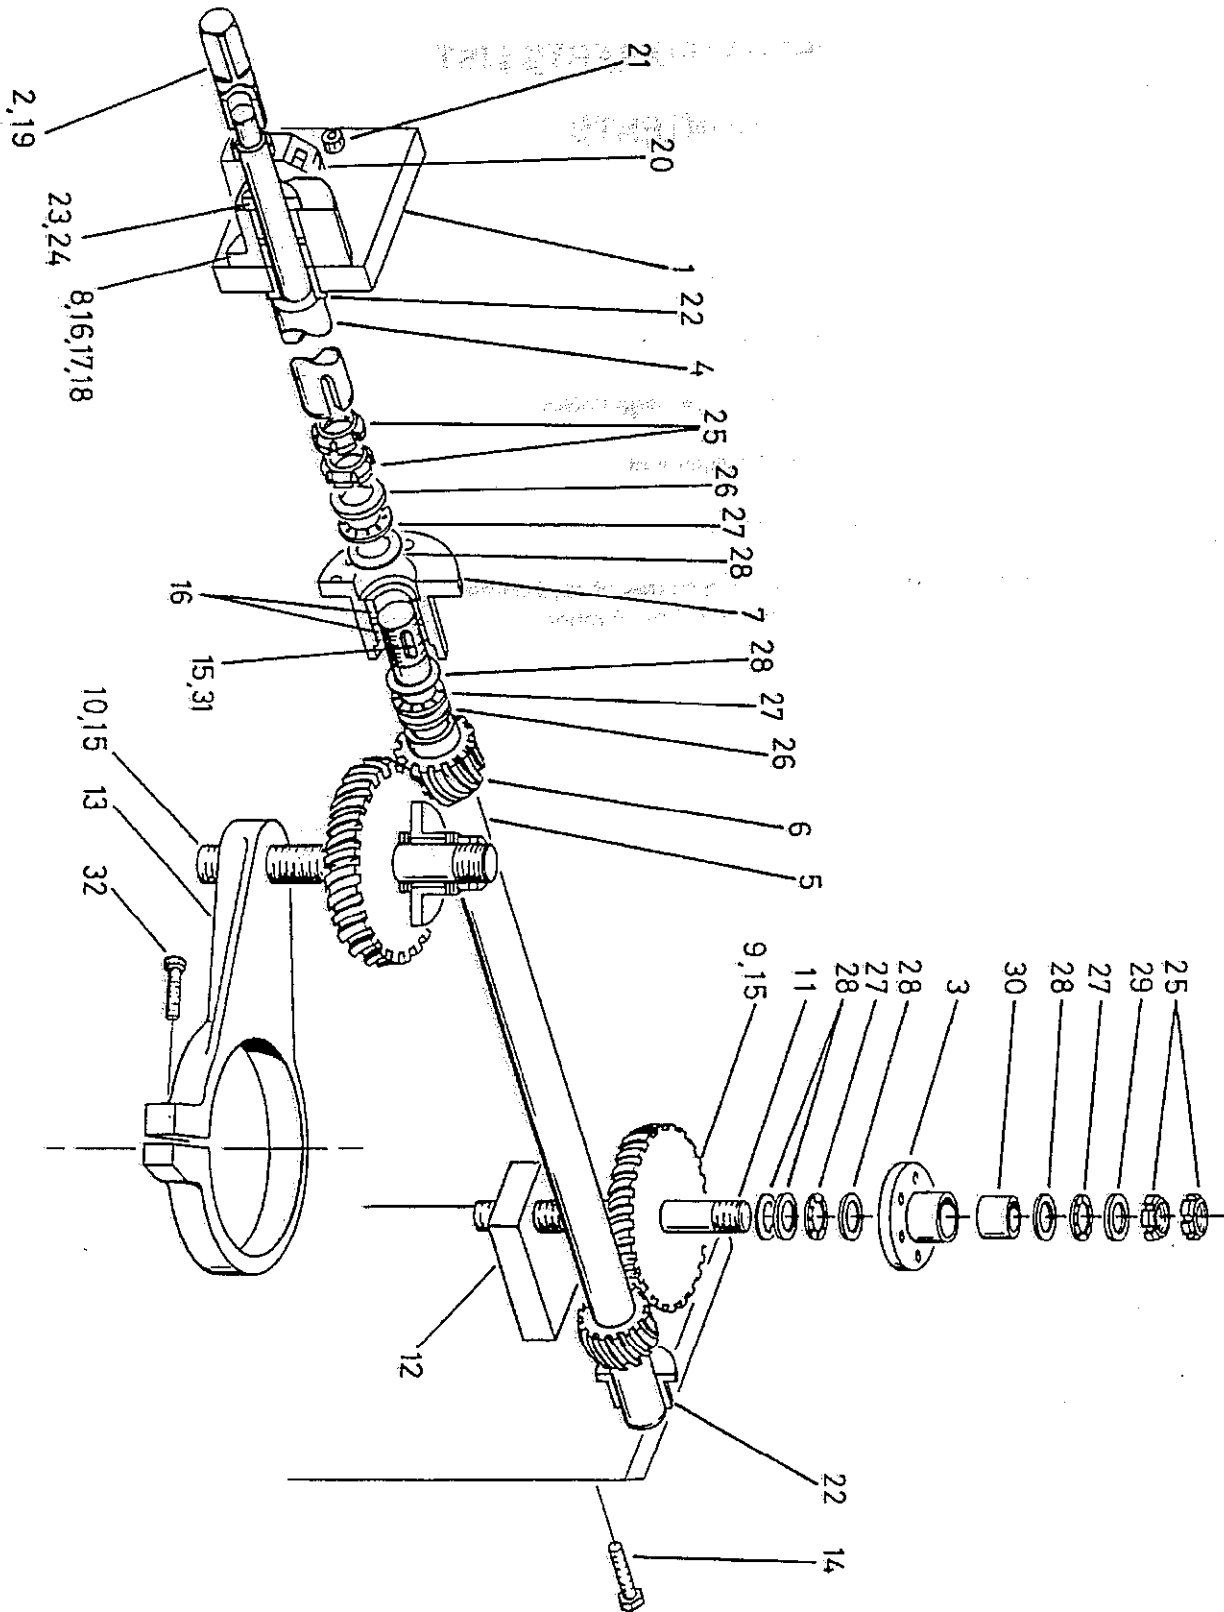

FIG 1 NEAR SIDE HEAD RISE AND FALL
To change cutterblocks on Fence and Near Side Heads (Fig 1)
- b. Depressurise the hydrogrip cutterblock by turning the pressure release screw (2), located in a recess on the barrel of the cutterblock one quarter turn to release, using a 3mm A/F hexagon key.
- c. Slide the cutterblock from the spindle. Always leave the pressure release screw (2) undone when the cutterblock is not in use to avoid distortion to the cutterblock due to the variation in room temperatures.
- b. Carefully place the cutterblock on the spindle. On the hydrogrip blocks tighten pressure release screw (2), and pressurise the cutterblock by applying hydraulic pressure to the pressure nipple (1) located in a recess located on the barrel of the block (see fig 1).
Vee Belt Drive Tensioning (Fig 1)
Replacing Vee Belts (Fig 1)